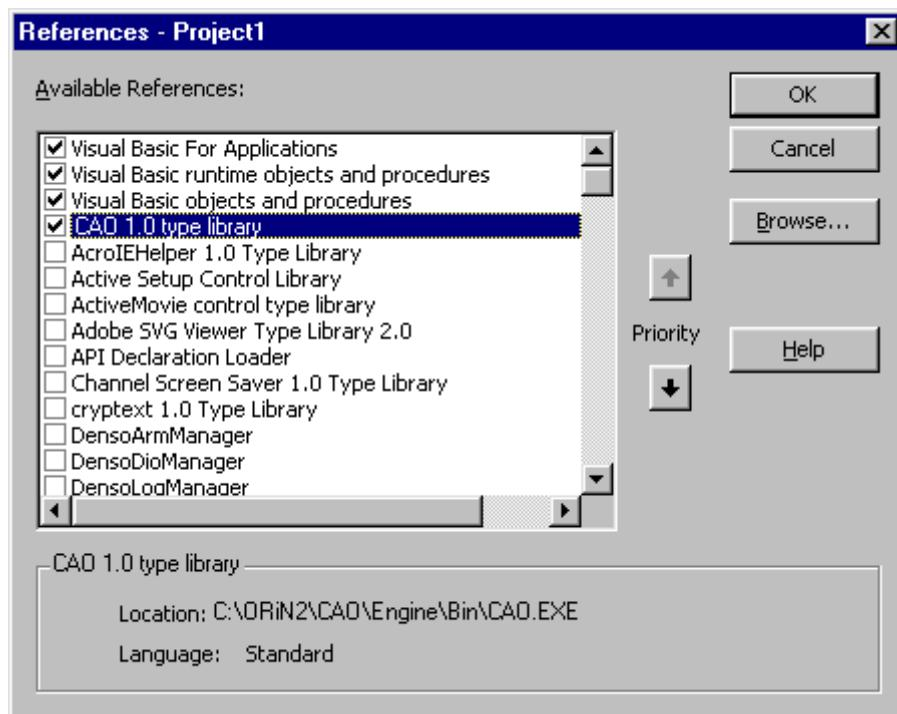

Figure4-2 Reference to CAO type library
- (1) Start Visual Basic 6.0, and select "Make of a new project" →"Standard EXE".
- (2) Add "CAO1.0 type library" from "Project" →"Reference setting" as shown in Figure4-2. As a result, the library of CAO can be used from the client application.